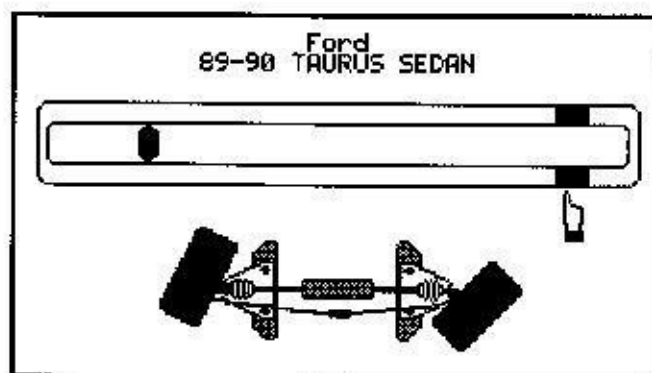

Figure 2-23
3. Wait for the CCD-1500 to take readings. When complete, the screen shown in Figure 2-23 will appear in the display.